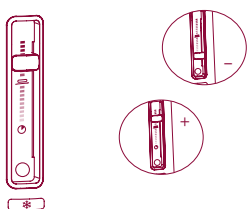

Fig. 4
- 2 Set the selector for the desired degree of toasting. Set it toward the bottom for shorter toasting time; toward the top for longer toasting time (fig. 4) (see "Advice on toasting").